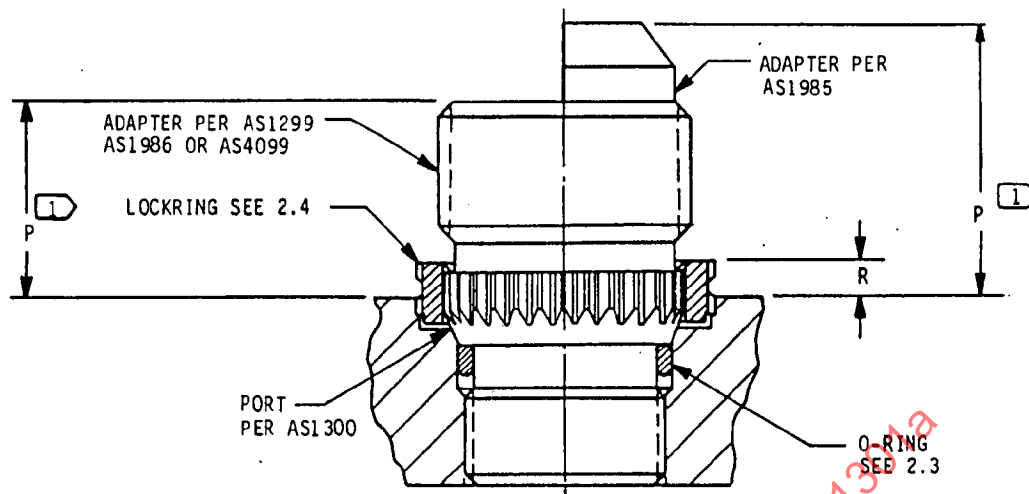

FIGURE 1 - Installed Adapter
- 2.2 Adapters per AS1299, AS1985, AS1986 and AS4099 installed per this document into ports per AS1300 shall have a stand-off per dimension "P" Fig. 1 and Table I.